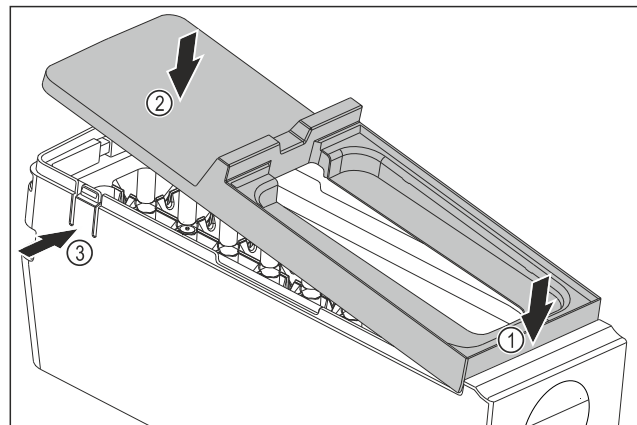

Fig. 85
- ▶ Installing the EasyTwist-Ice body cover: Place the cover on the front. Fig. 85 (1)
- ▶ Lower the cover at the rear. Fig. 85 (2)
- ▷ The cover locks into both tabs Fig. 85 (3) audibly.